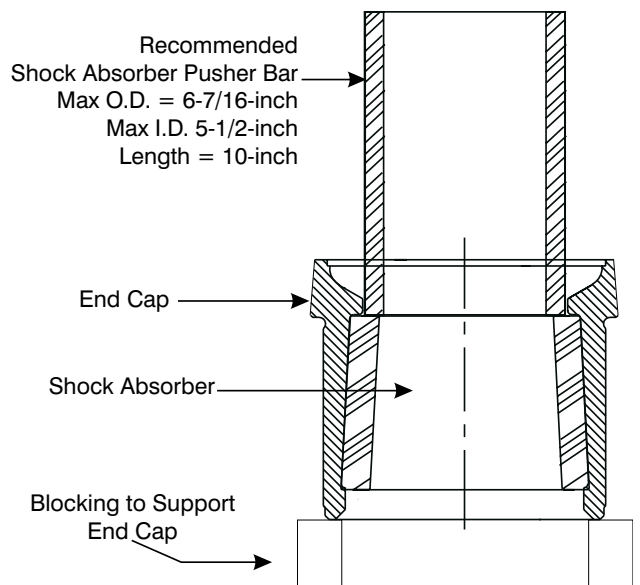

Figure 8-28. End Cap, Shock Absorber and Push Bar in Press.
7. Obtain a push bar approximately 10-inches long and 6-7/16-inches in diameter to drive the Shock Absorber (11) from the End Cap (10) as shown in Figure 8-28.
8. Lubricate the push bar lightly. It must pass through the End Cap (10) but must not slide inside the Shock Absorber.
9. Place the push bar inside the End Cap (10), and centered over the Shock Absorber (11) as shown in Figure 8-28.